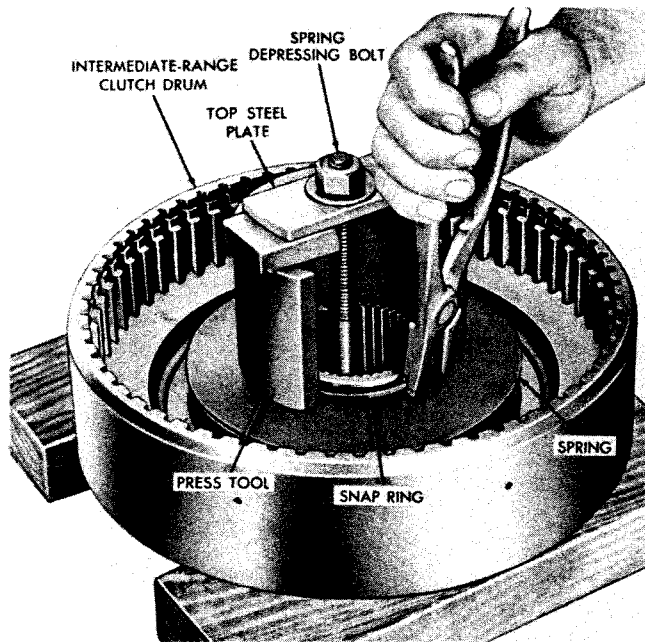

Fig. VI-20. Removing (or installing) return spring snap ring
(1) Remove two hook-type seal rings 1, from the hub of clutch drum 2.
(2) Improvise a puller (or use a press) which will depress the piston return spring 6. Remove snap ring 7 which retains the spring (fig. VI-20).
(3) Install the piston return spring, concave (cupped) side first, onto the piston (fig. VI-20).
(4) Improvise a puller (or use a press) to depress the clutch spring. Install the snap ring (fig. VI-20).
(5) Install two hook-type seal rings 1 (B, foldout 10) into the grooves on the front hub of clutch drum 2.